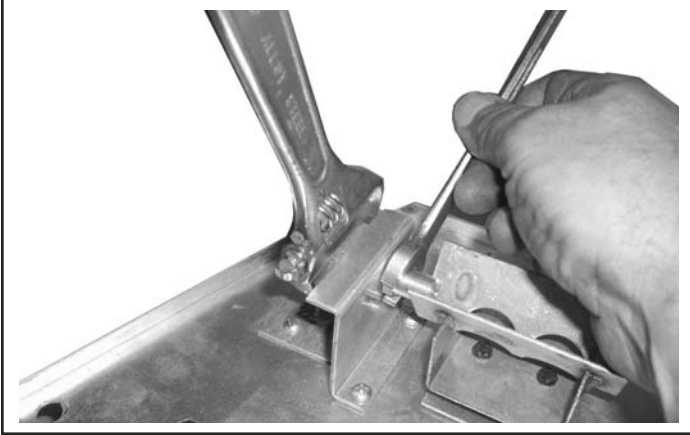

Figure 7.12 - Use two wrenches to avoid damage to manifold.
- Remove injector orifice from left burner bracket with a 1/2" wrench. Use a back up wrench to prevent damage to the manifold. (Figure 7.12)